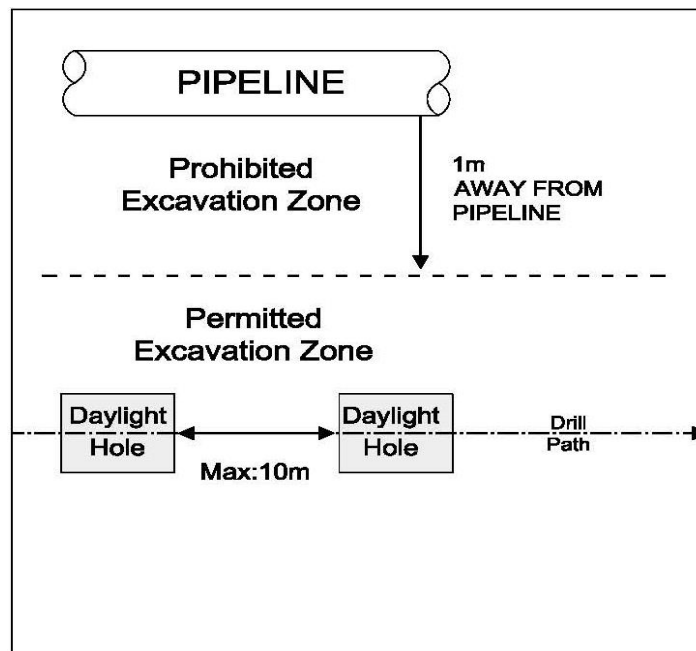

Figure 8: Top view of parallel trenchless construction
- b. In all cases, daylight holes are required for visual confirmation of drill/bore path with actual depth measurements. The daylight holes must be no more than 10m apart. Refer to *Figure 8*.